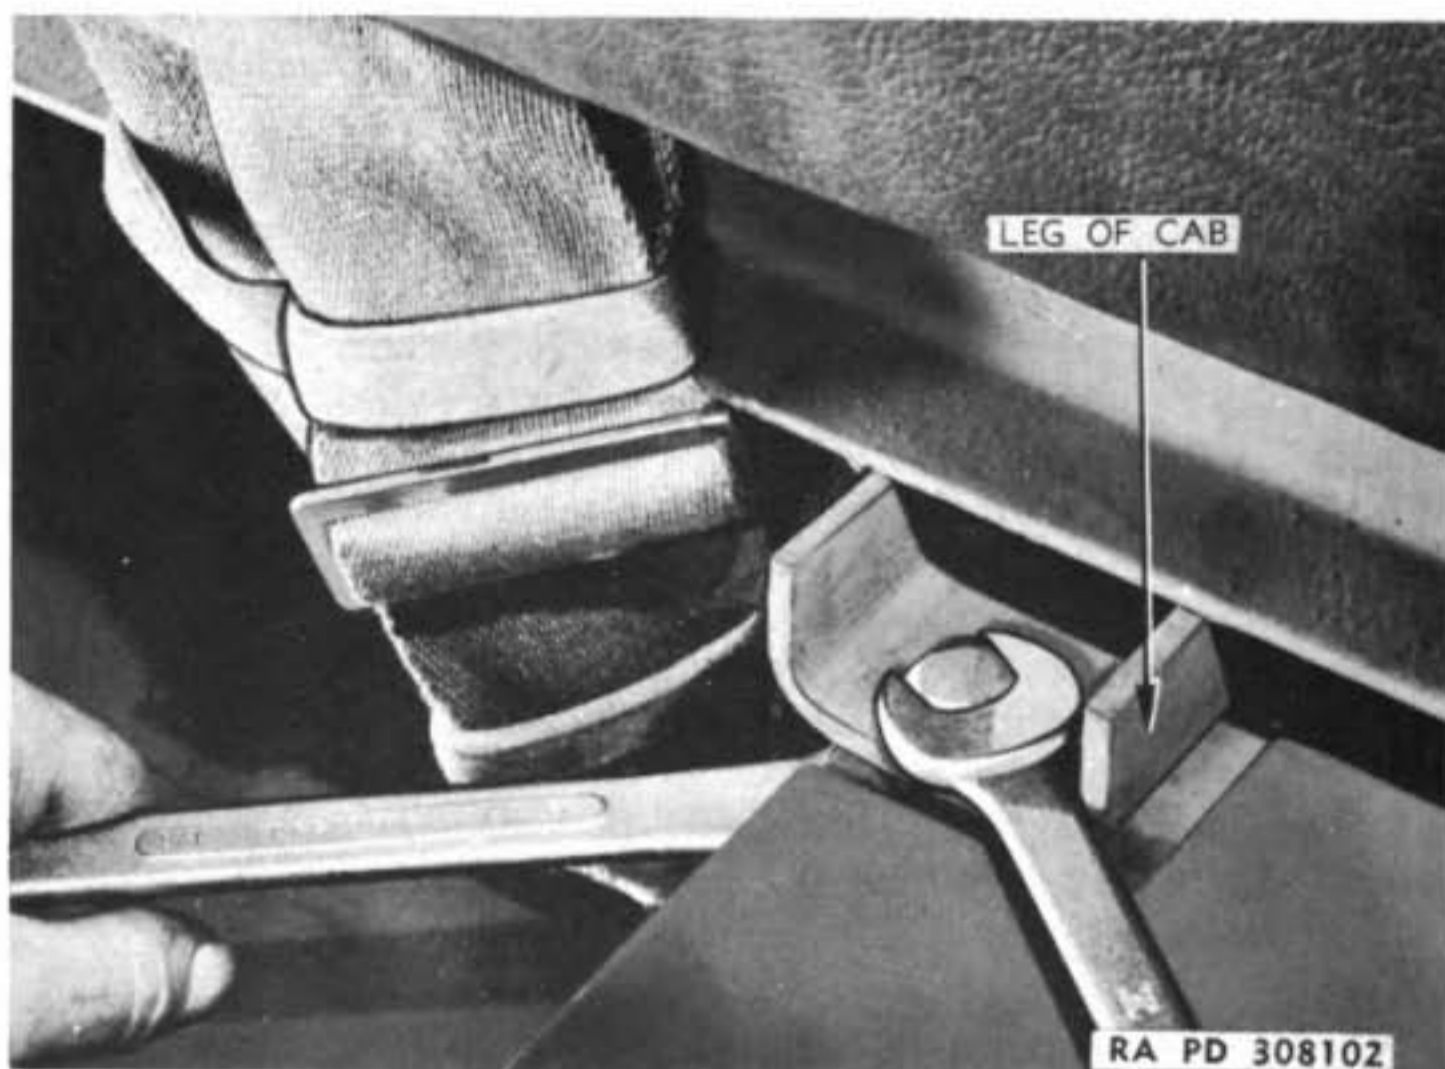

Figure 2 – Disconnecting Cab From Hull
b. **Disconnect Cab From Hull and Disconnect Wires and Controls.** Remove 8 bolts that attach rear and center legs of cab to hull (fig. 2). Remove the 22 cap screws from front guard plate below bumper and remove plate. Remove the 3 bolts holding cab